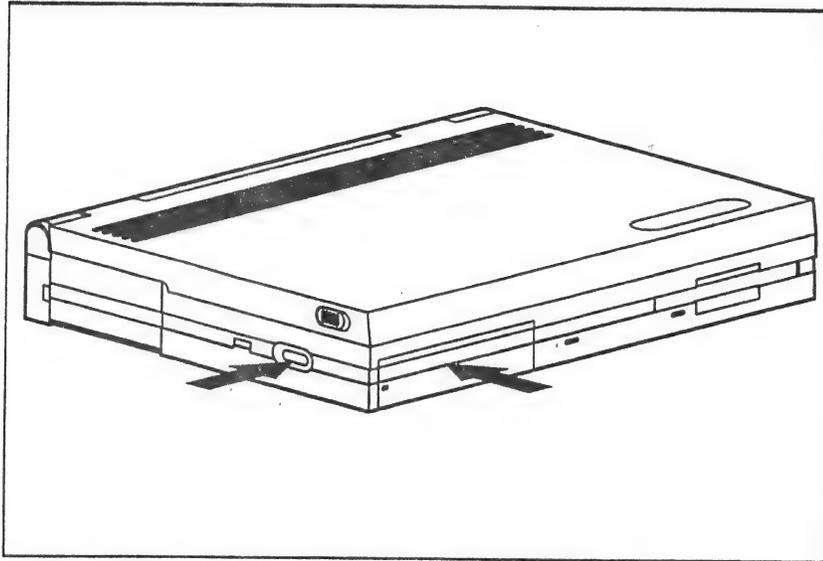

Figure 2-4. Releasing the Battery Pack
1. Press in on the battery pack. At the same time, press the battery release button on the left side of the computer; then release the battery pack (Figure 2-4).